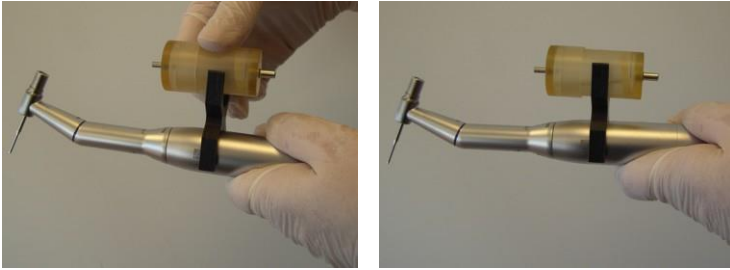

Figure 3-56. Attaching the Graft Collector to the Handpiece Clamp
12. Attach the graft collector to the clamp (on the handpiece), with its Graft Side Facing the Handpiece Head, as shown in Figure 3-56.